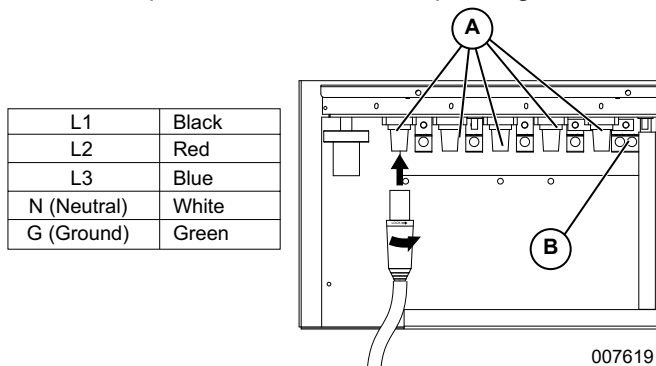

Figure 3-6. Cam Lock Connections
See Figure 3-6. The unit is equipped with connection lugs (A) and ground connection (B). The lugs provide connection points to attach external loads to the generator. A decal on the inside of the connection lug door details the proper connections for selected voltages. Use a hex-wrench to tighten cable connections (A). The lug door is equipped with safety interlock switches that will trip the main circuit breaker and disable the voltage regulator, dropping the operator output to residual voltage, if the door is opened while the unit is operating.
See Figure 3-6. The unit may be equipped with cam lock connections (A) and ground connection (B) located behind the lug door next to the customer convenience outlets. These receptacles provide connection points to attach external loads to the generator. A decal on the inside of the connection lug door details the proper connections for selected voltages.